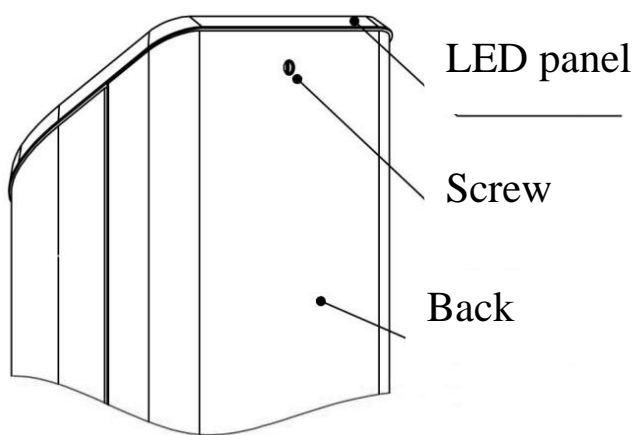

Fig. 4
5.1. Remove the decorative cover and undo the M4 screw at the rear of the card collector (Fig. 4).